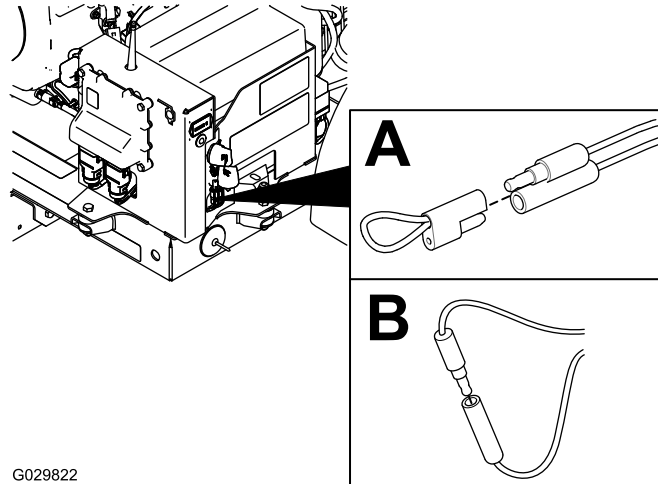

Figure 40
2. Pull the tethered cap off of the 2 diagnostic, shunt connectors (Figure 40, A).
3. Connect the diagnostic, shunt connectors together (Figure 40, B).